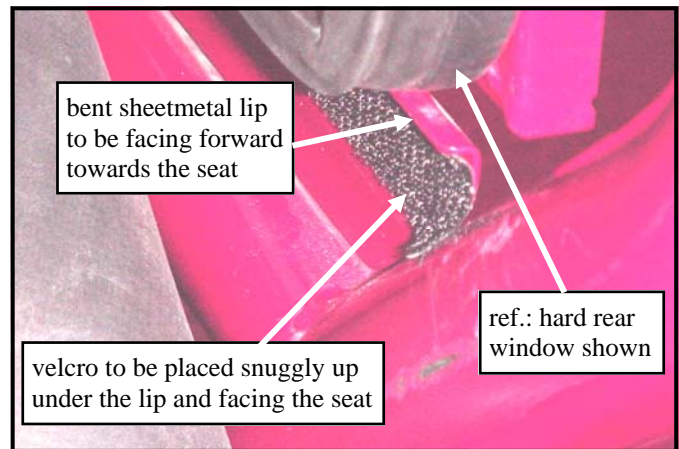
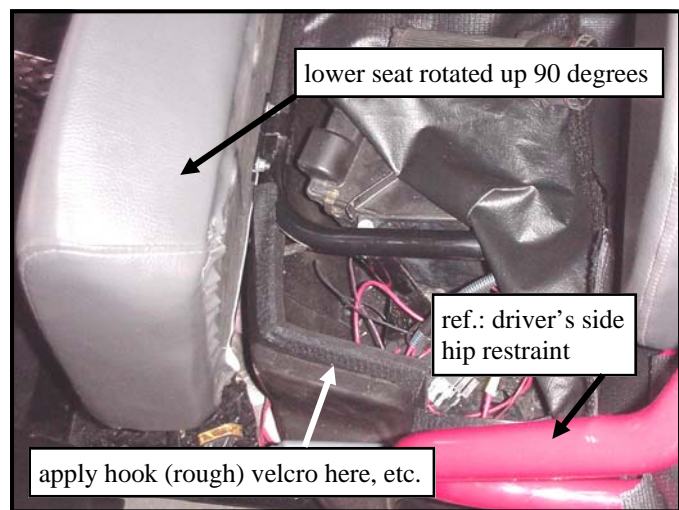

Fig. 1.1 (view from front of passenger's side of vehicle)
Fig. 1.3 (view from side of driver's side)
1.1 If a hard rear window will be installed, make sure the sheetmetal filler underneath the expanded metal screen is reversed so the small bent lip faces forward as shown in Fig. 1.1 (this acts as a shelf for the hard rear window to rest on). Remove and re-install three (3) bolts holding this filler in place. Note: this filler can also be reversed even for a soft rear curtain installation (in case down the road a hard rear window is desired).
1.3 Raise the lower seat 90 degrees as shown in Figure 1.3. Spread out the anti-draft panel as would appear to be appropriate. Panel may pass under seat and velcro to front of tube beneath front edge of seat. Pull back one area or section at a time in order to assess where to apply the hook (rough) velcro on the vehicle. Per Fig. 1.1, install four (4) pieces of hook (rough) velcro as high up as possible underneath the forward facing sheetmetal lip to the left and right sides of the bolt heads. NOTE: adhesive backed velcro should be applied to a clean, dry surface at room temperature.
**3.1 CRITICAL:** Make sure the sheetmetal filler underneath the expanded metal screen has the small bent lip pointing forward as shown in Fig. 1.1 on the previous page (this acts as a shelf for the hard rear window to rest on).
3.6 Install the rear curtain to the newly installed stud snaps and hook velcro. Note: the bottom of the rear curtain velcros to the top inside edge of the anti-draft panel which has factory installed mating loop (soft) velcro. If an anti-draft panel is not being used, then install the supplied loop (soft) velcro as high up as possible underneath the forward facing sheetmetal lip shown in Fig. 1.1 on the previous page. Cut the velcro into four pieces to go on the left and right sides of the bolt heads.